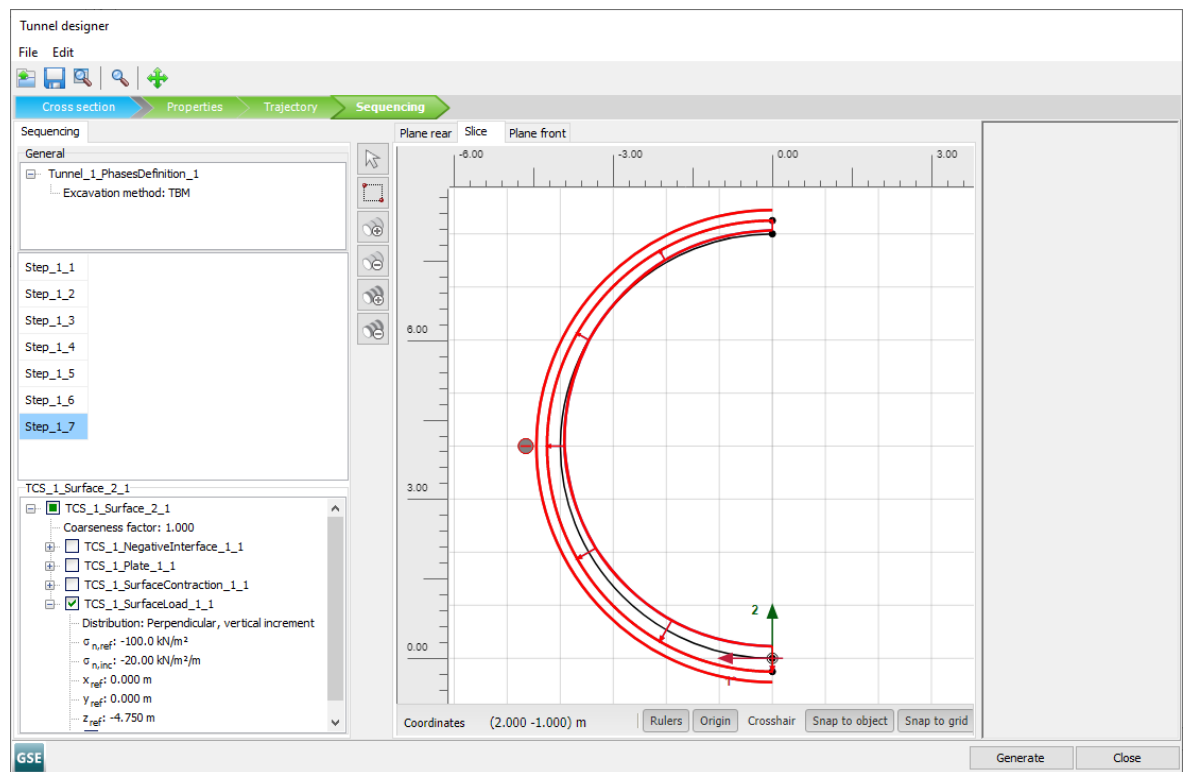

Figure 5–19: Slice tab Tunnel Designer <Step_1_7> Grout pressure TBM
- In the **Selection explorer**, activate the **Surface load** corresponding to the *grout pressure* (see Figure 5–19 (p. 101)).